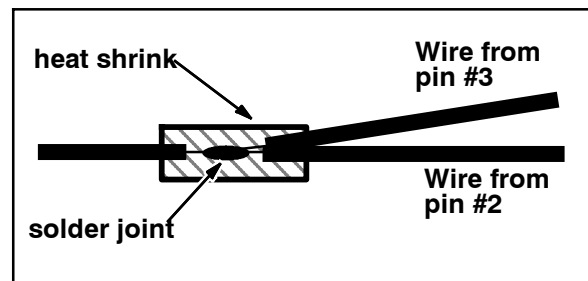

FIG. 7
23. Slide the heat shrink (23) onto the wire from **pin #2**.
24. Solder the loose end of the wire in **pin #3** to the wire in **pin #2**. Solder wires as shown in Fig. 7 so the heat shrink (23) can be positioned over the solder joint for the best possible seal.
25. Heat shrink the heat shrink over the solder joint and the exposed portions of both wires. Refer to Fig. 7.